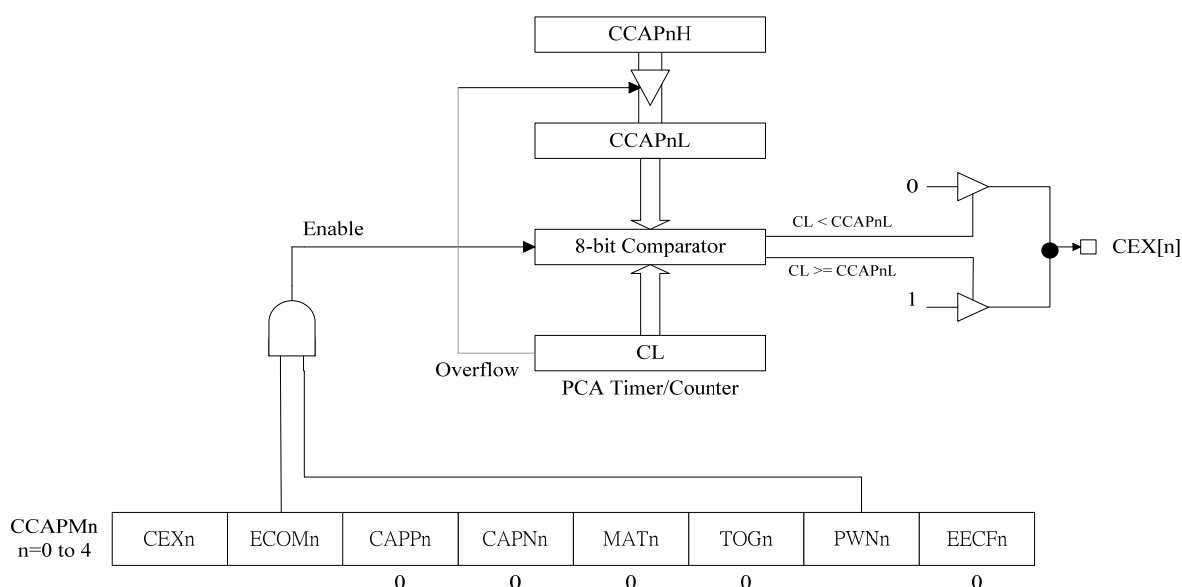

Figure 100: PCA Pulse Width Modulator Mode
The Pulse Width Modulator (PWM) mode is used to generate a continuous square-wave with an arbitrary duty cycle. As shown in Figure 100 below, it generates 8-bit PWM by comparing the low byte of the PCA timer (CL) with the low byte of the compare register (CCAPnL). When $CL < CCAPnL$ the output of CEX[n] is low. When $CL \geq CCAPnL$ the output CEX[n] is high. To activate this mode, the user must set the PWM and ECOM bits in the module's CCAPMn register.